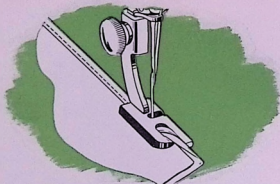

Fig. 38. Making a Hemmed Seam (First Operation)
1. When making this seam, the garment must first be fitted and edge of material trimmed, allowing for about $\frac{1}{8}$ inch seam. Insert the two edges of material, right sides together, in hemmer in same manner as a single hem as shown in **Fig. 38**. If material is bulky, place edge of upper piece of material about $\frac{1}{8}$ inch to left of edge of under piece.